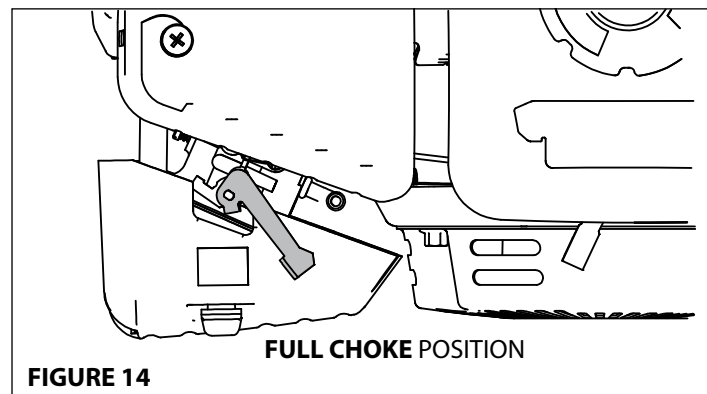

FIGURE 14
- If the engine is cold or the ambient temperature is low, move choke lever to the **FULL CHOKE** position. **SEE FIGURE 14.**